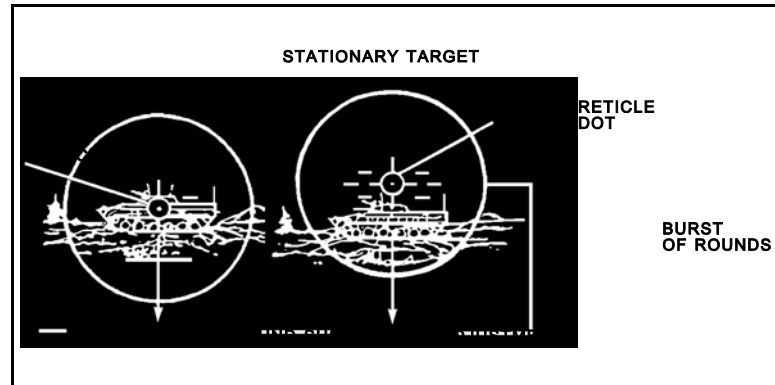

Figure 5. Strike of round.
- h. Look at the strike of the round through the gunner's eyepiece (Figure 5, page 3-144).
- (1) If the round strikes in the aiming point, the gun is zeroed.
- (2) If the round strikes off-center, adjust the reticle to the strike of the round to obtain a zero.